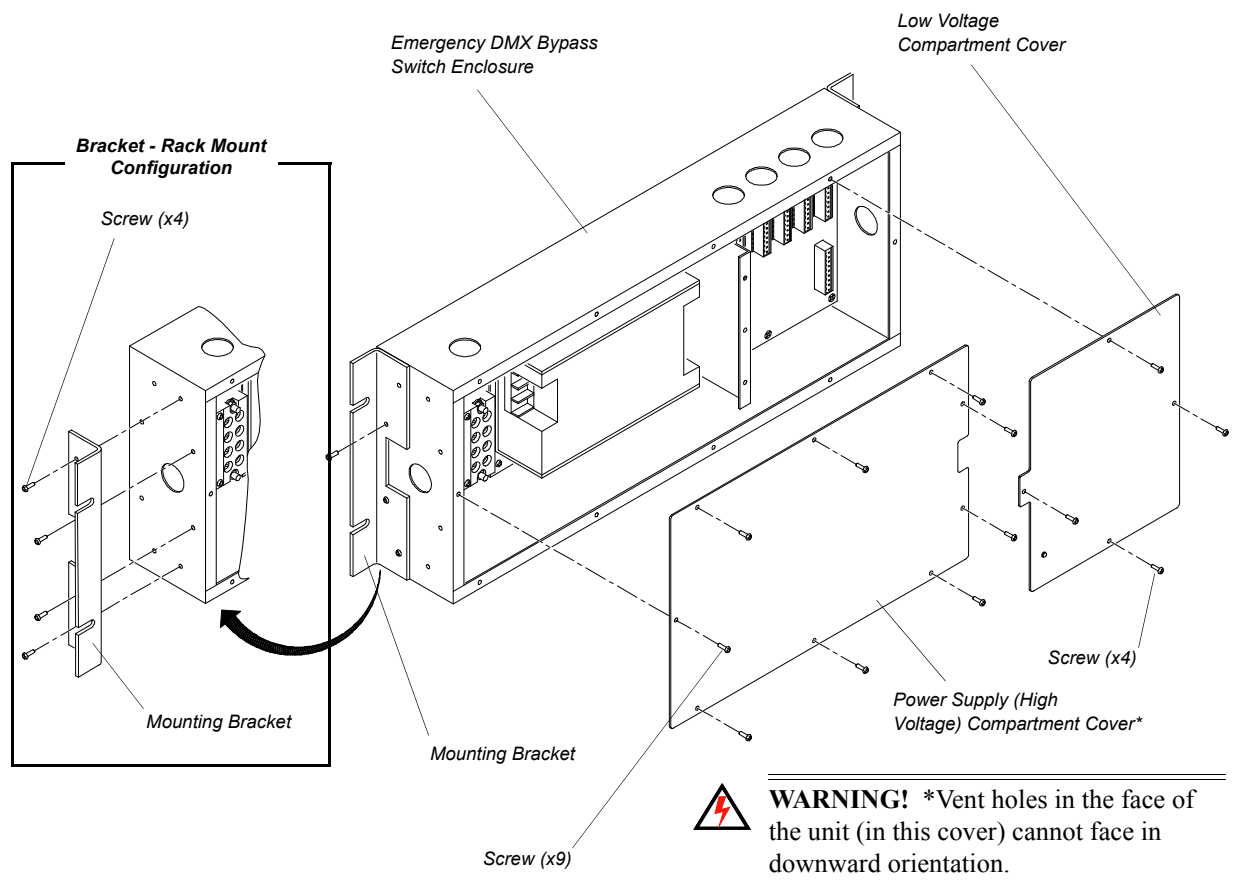

Figure 5: Configuring Mounting Brackets & Removing Covers
- Step 3. If necessary, reconfigure mounting brackets (supplied) for wall or rack mounting as shown in **Figure 5**.
Step 10. Re-install compartment covers (Figure 5).